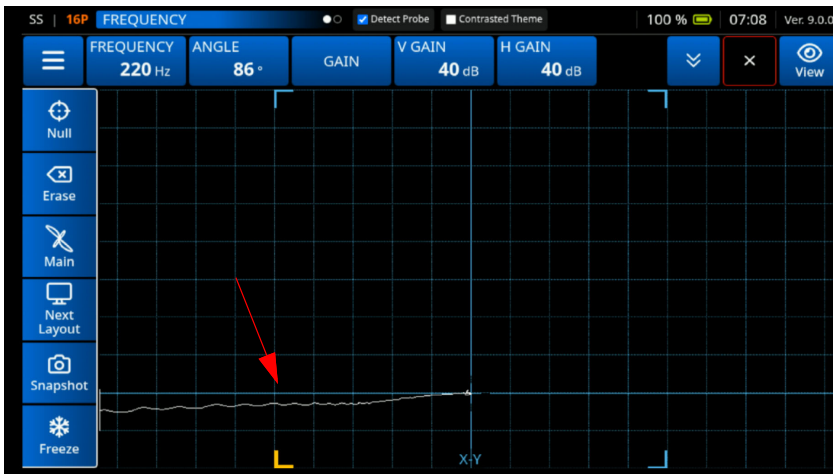

Figure 3-71 Confirm the Lift Off Setting
6. Confirm the lift off setting (See Figure 3-71 on page 96).